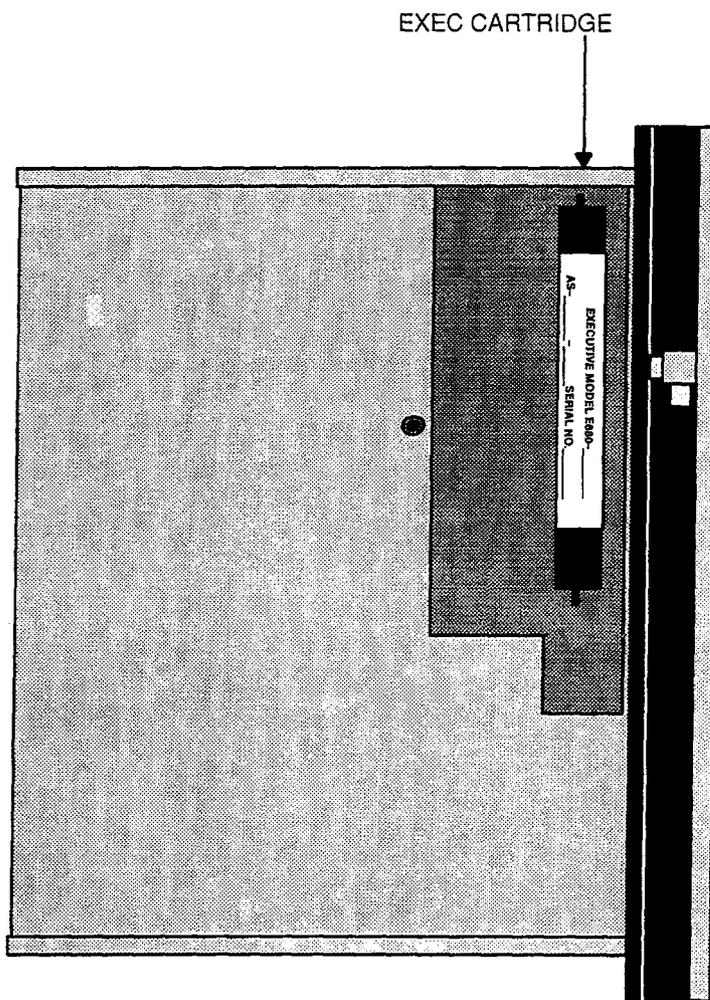

Figure 38 S908 Exec Pack Installation
- Step 1** Open access port in S908 and ensure correct Executive Cartridge is securely installed as shown in Figure 38.